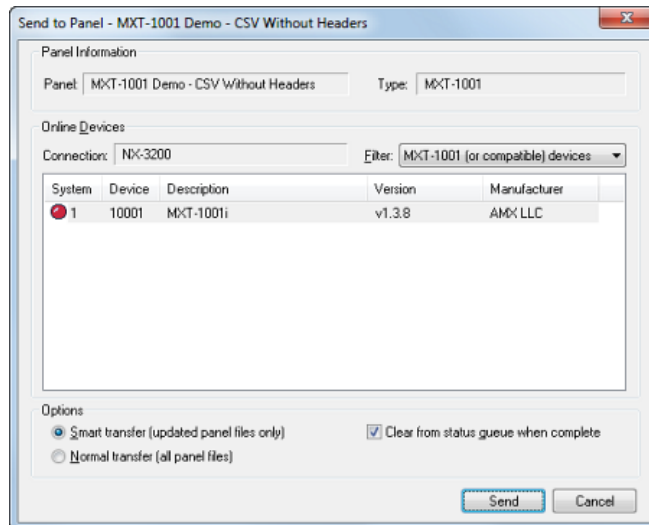

FIG. 175 Send To Panel dialog
2. Select the connection configuration for the target NX Master from the *Connection* drop-down list, and click **Connect**. Once a connection has been established with the Master, select **Transfer > Send to Panel** to open the *Send to Panel* dialog (FIG. 175):